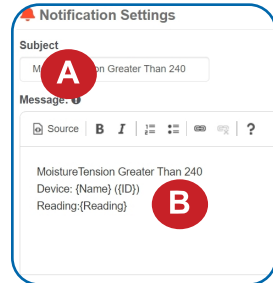

Figure 30
- A. Input the subject for the notification. See Figure 30.
- B. Customize the message body for the notification. See Figure 30.